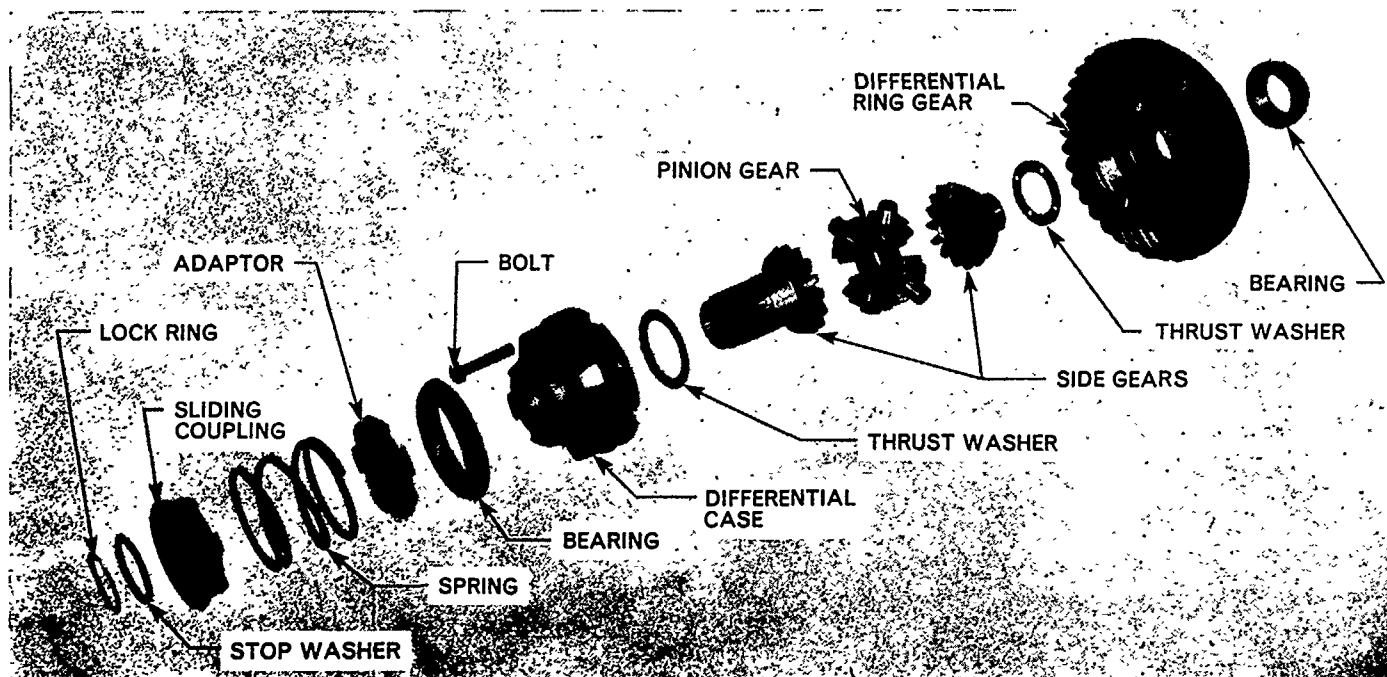

Figure 58
1. If a differential lock is fitted, remove the lock ring retaining the sliding coupling to the side gear. Remove the stop washer, sliding coupling, coupling spring and gear case adaptor, Figure 58.